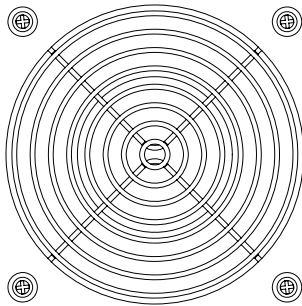

**Figure 6**
4. Route each RJ45 cord from the switch through the divider panel cutout, up to and across the wire tray, and down to each laptop bay. **Figure 4.** (Excess cord can be bundled and secured inside the tray.) (Also see **Figure 6** wiring diagram for reference.)